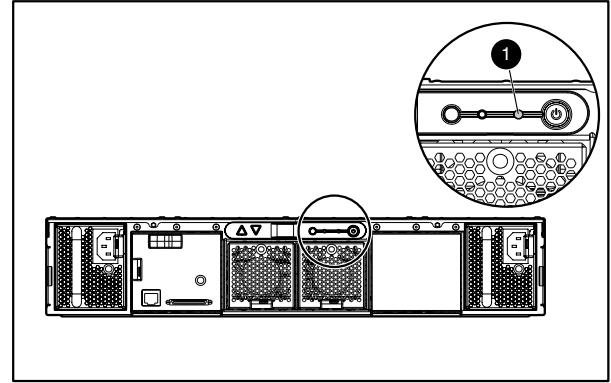

Figure 2 MSA20 enclosure fault indicator
- On an MSA20, check the enclosure fault indicator. See Figure 2. It should be amber.